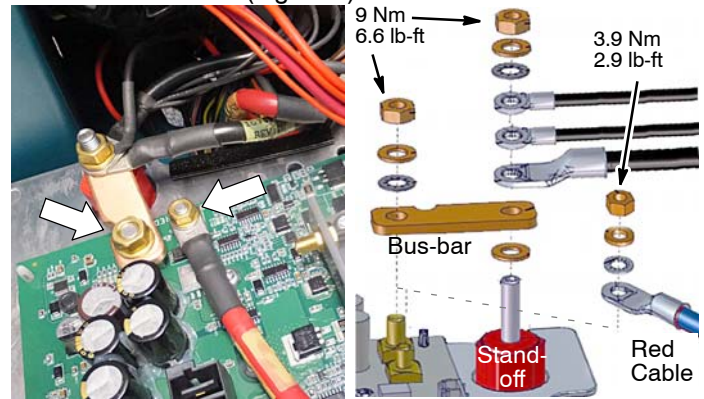

Fig. 9
- Reconnect the bus-bar and red cable to the new control board as shown (Figure 9).